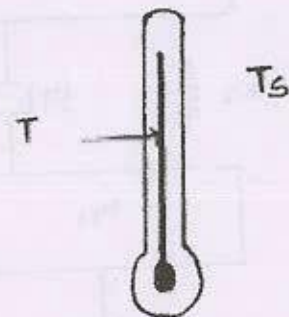

fig 1c
- c) For the thermometer shown in fig. 1c, the ambient temperature is T_s and temperature of fluid is T . The rate of heat flow from surrounding medium to the fluid is $Q = C_1(T_s - T)$. The rate of change of temperature of fluid is $D.T. = C_2.Q$. Construct the block diagram representation for the system in which T_s is input and T is output. Determine time constant. [6]